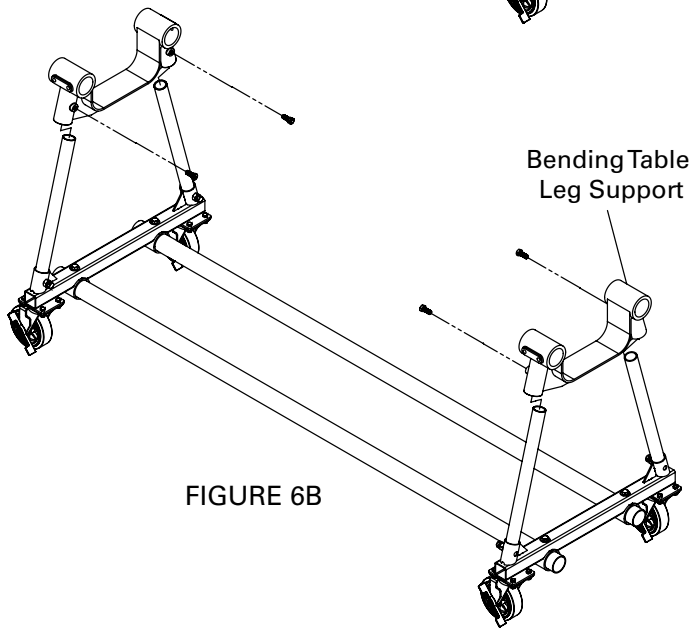

FIGURE 6B
- (1) Lock the brakes on all four casters of the Mobile Conversion Kit.
- (2) Insert the legs of the Mobile Conversion Kit into the leg supports from your bending table as shown in Figure 6B. **DO NOT** tighten any bolts at this time.